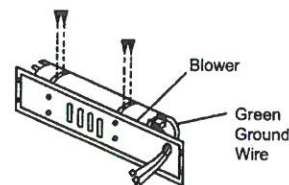

Figure 14-F Attaching Brackets To Blower
2. Attach the two brackets to blower housing using four white screws provided in blower kit (2 for each bracket) (see Figure 14-F). Tighten screws securely. Then guide the green grounding wire and download of motor through the panel.